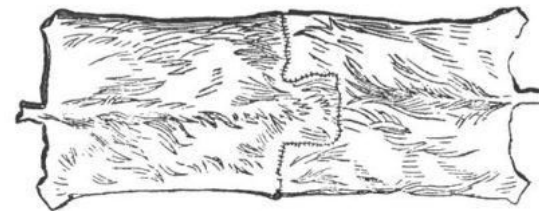

Fig. 4.
6. Kill two bulls, skin them, and in skinning, be careful to make your cuts in the skin down the rump to the hock of the animal, and down the brisket in front of the fore-leg to the knee, so as to have your skins as square as possible (fig. 4). Cut off the heads, and sew the skins together at the nape of